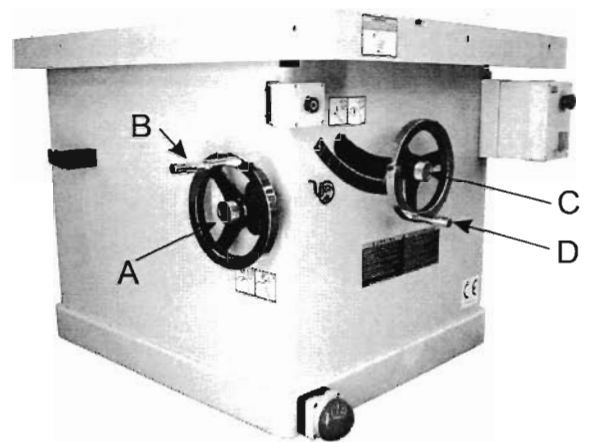

Figure. 16
1. Set the saw blade to the 90 degree position and raise it all the way (refer to Handwheel Adjustments on Figure 16.)
2. Remove the table insert (J).
Referring to Figure. 16